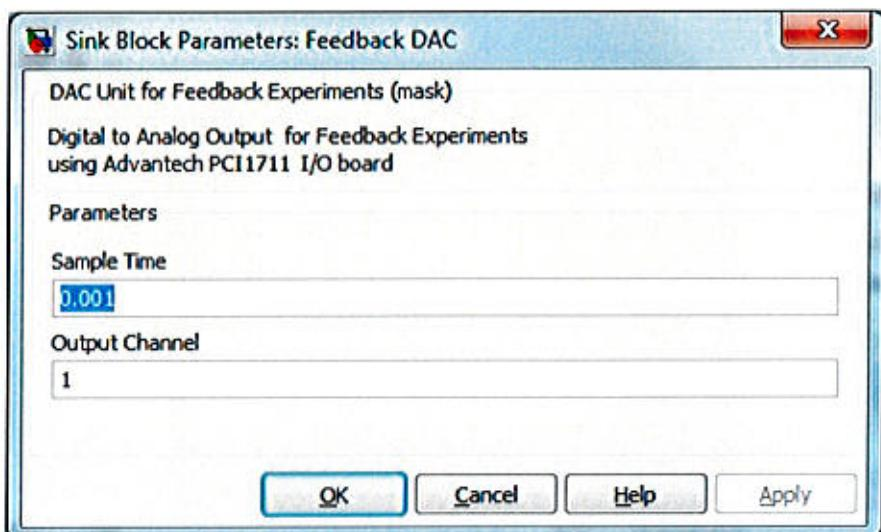

Figure 41 Feedback DAC Block Parameters
- By double clicking on this block we can change the above parameters (Figure 41).